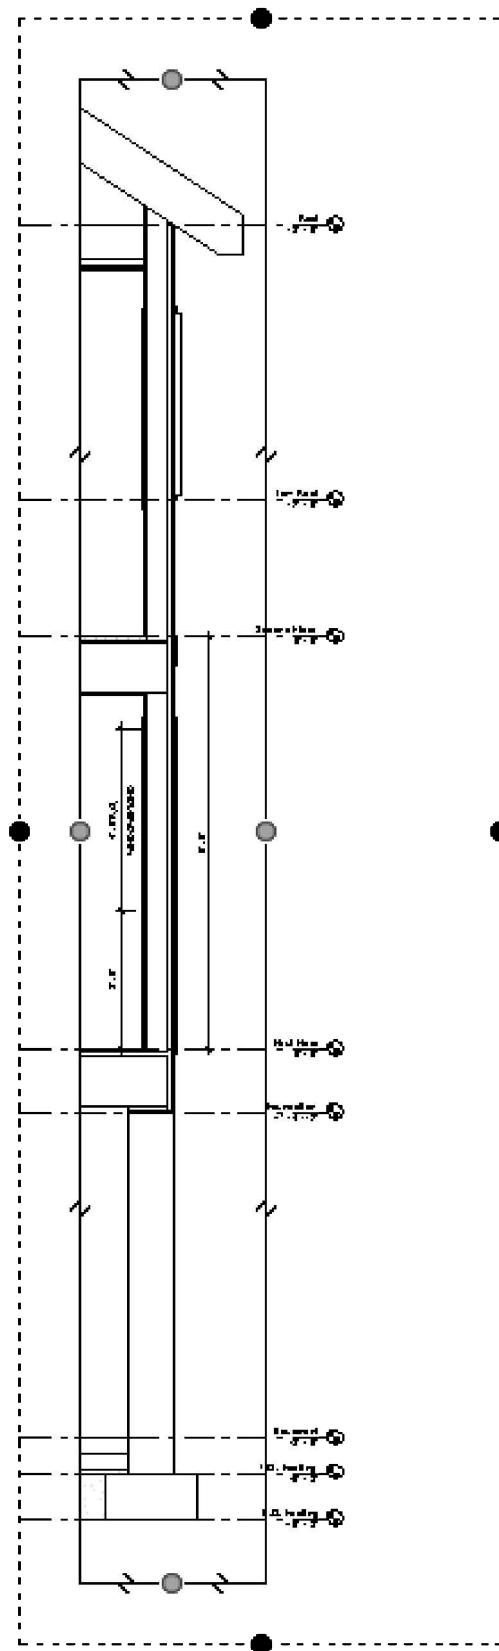

FIGURE 11-4.5 Crop Region Edits
11. Drag the control grips for the vertical dashed line on the right as per **Figure 11-4.5**.